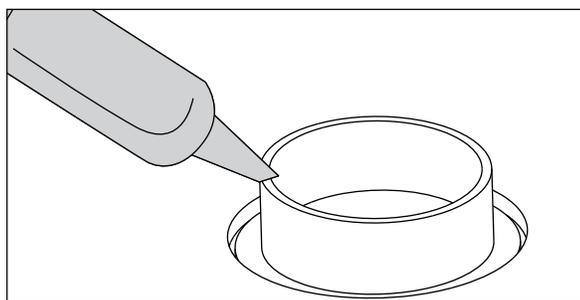

FIG 2 Apply construction adhesive to all feet.
Step 3 - Apply construction adhesive to all feet and install base into alcove (Figure 2).